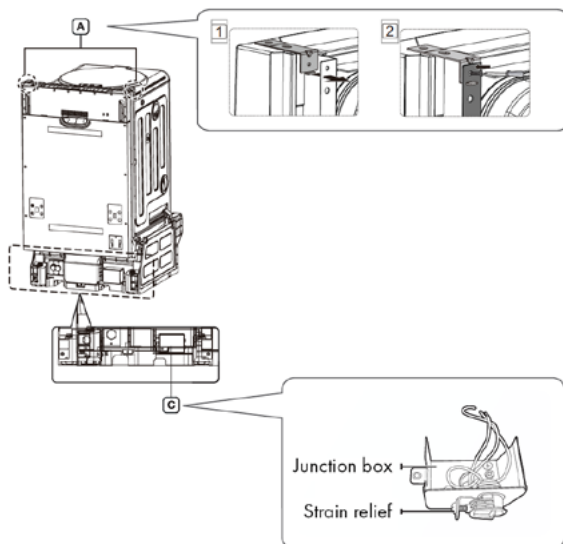

Figure 4
3. Remove the junction box cover located at the bottom front right of the dishwasher using a screwdriver, and then install the strain relief (see Figure 4 - C). Make sure to keep the junction box cover; it is used in "Step 11: Electrical Wiring Connections" on page 21.
4. If the countertop is made of wood or a material not damaged by drilling, attach the two installation brackets supplied with the dishwasher using the supplied screws (see Figure 4 - A). They will be used in "Step 9: Securing the Dishwasher" on page 17.